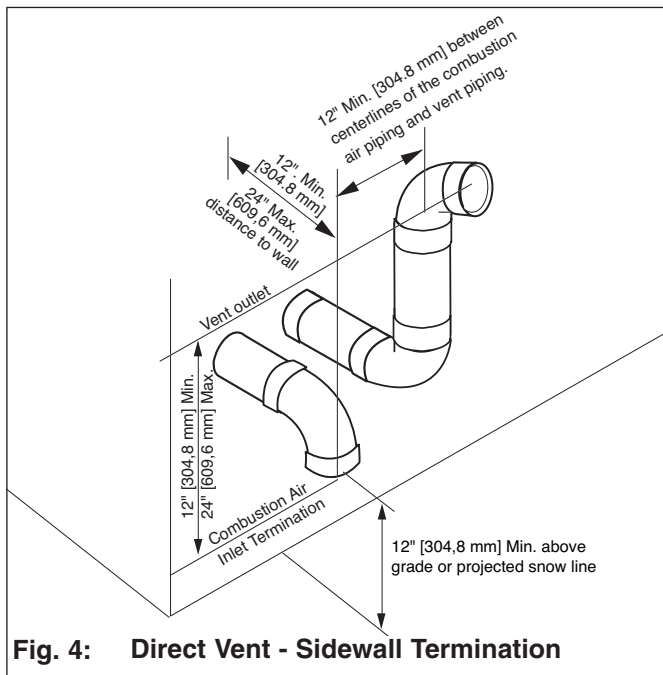

Fig. 4: Direct Vent - Sidewall Termination
2. The combustion air piping must terminate using a 90° elbow and must be installed 12 inches [304,8 mm] above grade or projected snowline as shown in Figure 4 or 4 A.
3. The vent piping must terminate vertically with a 90° elbow configured outward or away from the combustion air inlet and must be located 12 to 24 inches [304,8 to 609,6 mm] above the combustion air inlet as shown in Fig. 4 and 4 A.
Do not extend the vent pipe outside the sidewall beyond the given dimensions shown in Figs 4 & 4A, page 8. Extended exposure of the vent pipe could cause condensate to freeze and block the vent pipe.
4. The combustion air inlet and vent terminations must be located a minimum of 12 inches [304,8 mm] from centerlines as shown in Figs. 4 and 4A, page 8.
3. Locate the vent and combustion air pipe penetrations to provide minimum clearances as described in Figs. 4 and 4A, page 8.
2. The combustion air piping must terminate using a 90° elbow as shown in Figs. 4 & 4A, page 8.
3. The vent piping must terminate with an elbow that is configured outward or 90 degrees away from the combustion air inlet as shown in Figs. 4 & 4A, page 8.
Do not extend the vent pipe outside the sidewall beyond the given dimensions shown in Figs. 4 and 4A, page 8. Extended exposure of the vent pipe
Reference Figs. 4 and 4A, page 8 for the configuration dimensions for the vent and combustion air inlet terminations for each unit installed in a multiple installation.